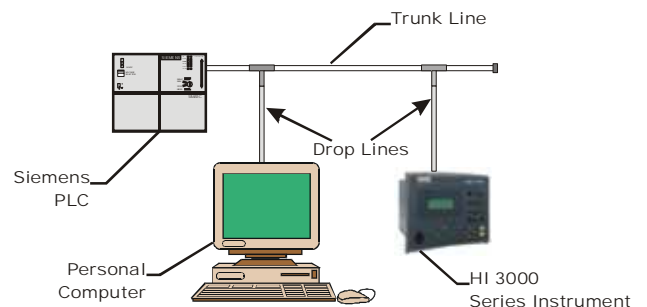

FIG. 140: SIMPLE PROFIBUS NETWORK WITH TRUNK AND DROP LINES
- Step 1. Connect the HI 3000 Series Instrument to the Profibus DP network and verify the address. (See Fig. 140) (Installation and Cabling Instructions are located in the Cabling Section of this Manual)